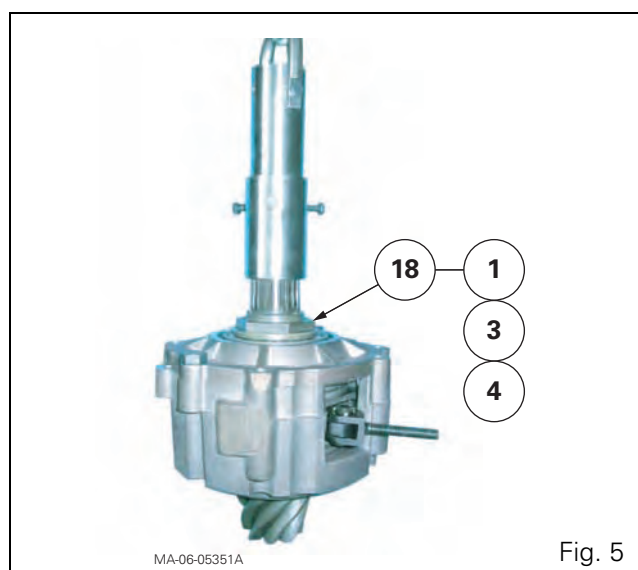

Fig. 5
6. Remove the pinion/hand brake unit assembly (Fig. 5) (see chapter 6).
7. Completely unscrew the nut (18) (Fig. 5) using socket ref. 3378118M1 and special socket ref. 3378119M1 (see chapter 6).
Remove the following parts, making a note of their position (Fig. 5):